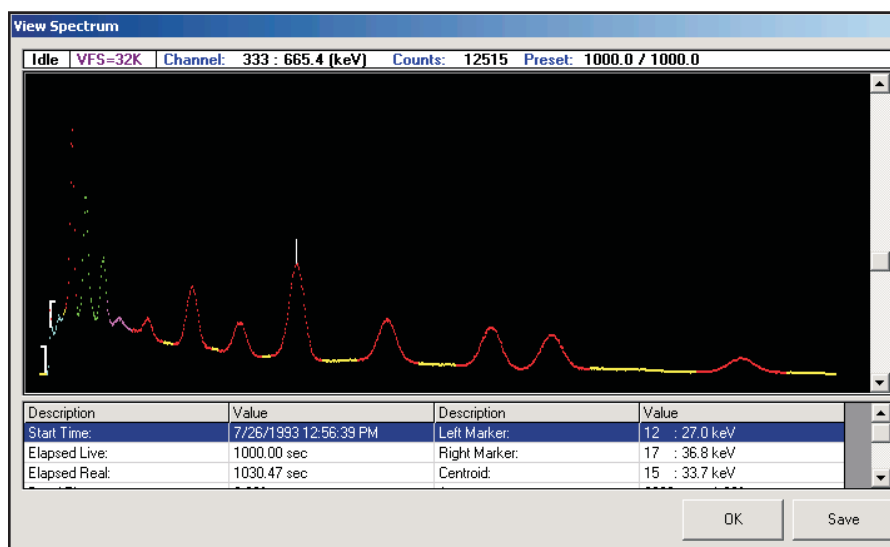

Figure 76 Viewing a Spectrum
3. The spectrum file will be retrieved from the InSpector and displayed (Figure 76).